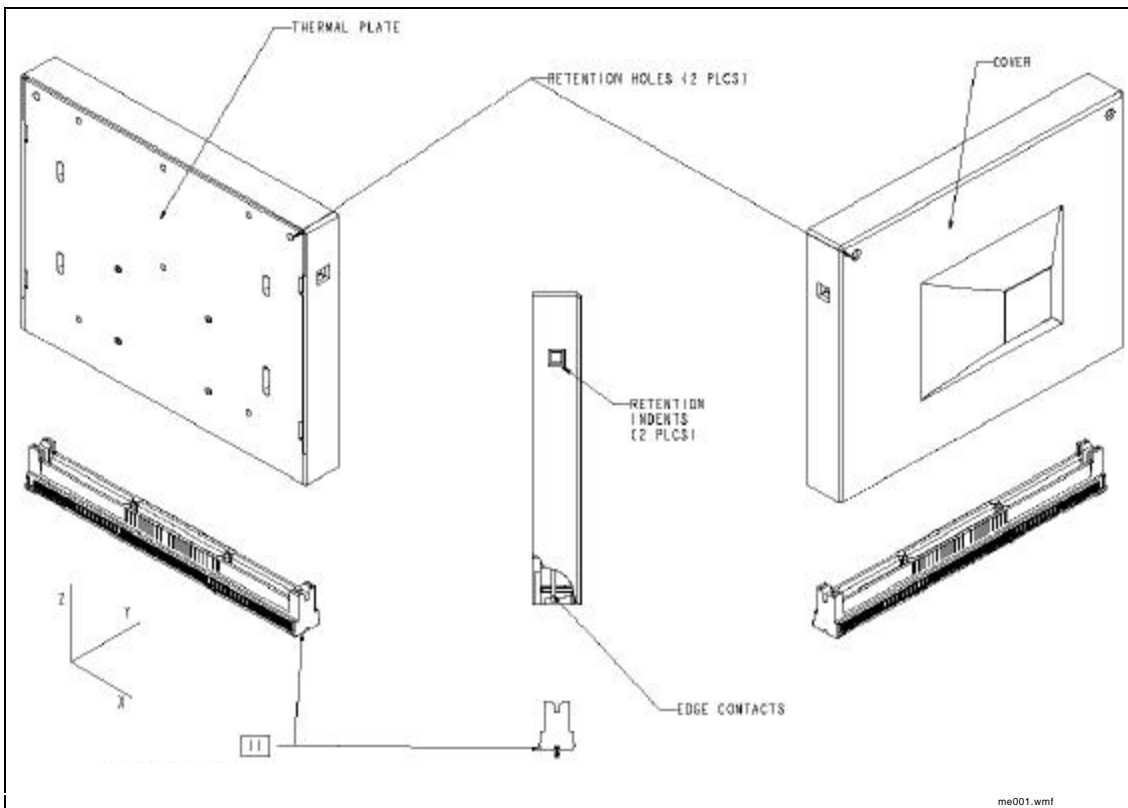
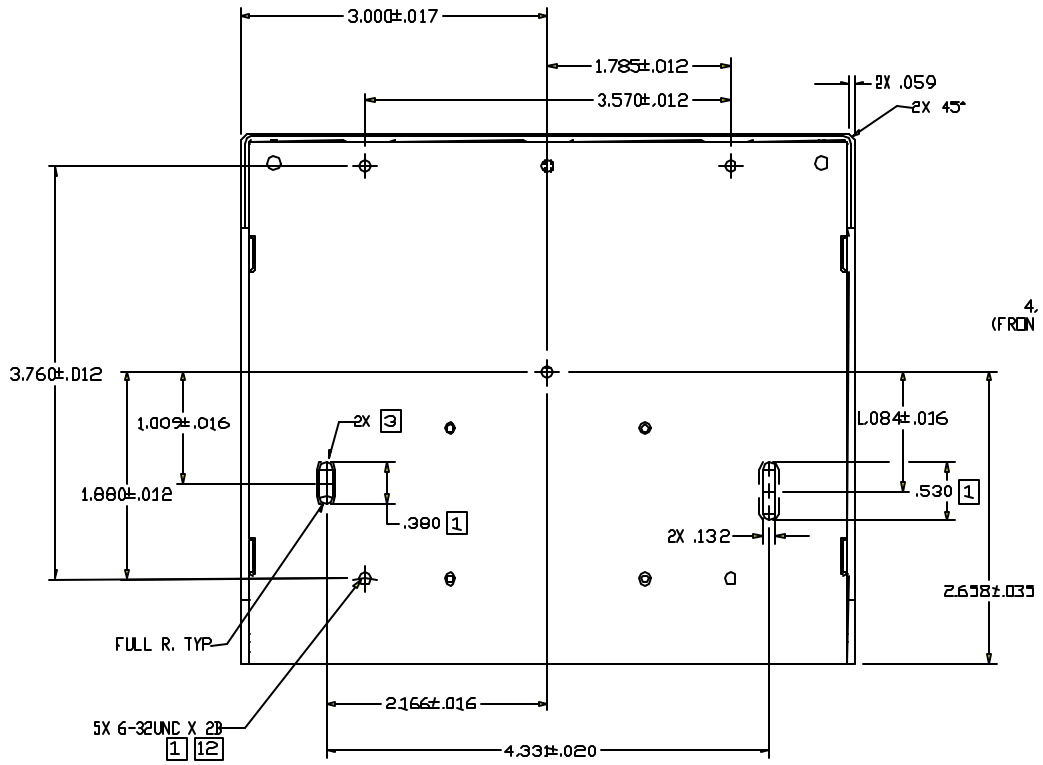

Figure 22. Isometric View of S.E.C. Cartridge
Figure 23. S.E.C. Cartridge Cooling Solution Attach Details (Notes follow)
Figure 22 shows the thermal plate side view and the cover side view of the Pentium III Xeon processor at 600 MHz+. Figure 23 shows the Pentium III Xeon processor at 600 MHz+ S.E.C. cartridge cooling solution attachment feature details on the thermal plate and depict package form factor dimensions and retention enabling features of the S.E.C. cartridge. The processor edge connector defined in this document is referred to as "SC330.1". This connector definition is mechanically the same as the existing SC300. See the SC330 connector specifications for further details on the edge connector.
- 12. All dimensions in inches for figures 23 through 28.
- 5. Retention devices for this cartridge must accommodate this cartridge “Float” relative to connector, without preload to the edge contacts in “X” and “Y” axes. (see figure 22 for axis orientation)